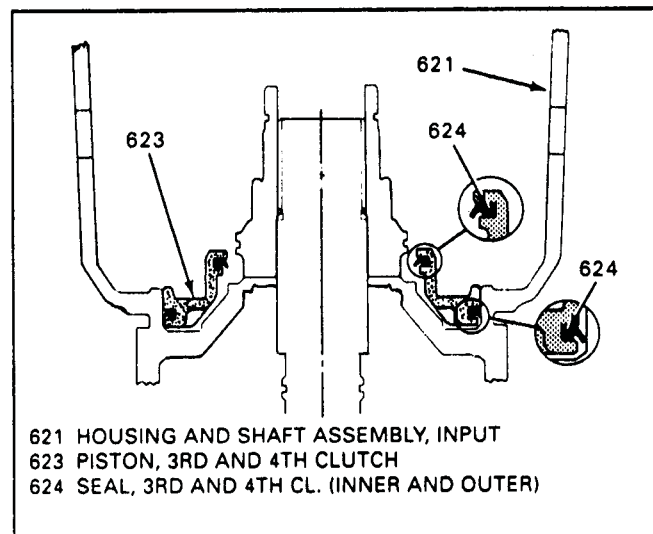

Figure 87
3. Install the inner and outer lip seals on the 3-4 clutch piston, lubricate with TransJel. Lip seals must face the direction shown in Figure 87.